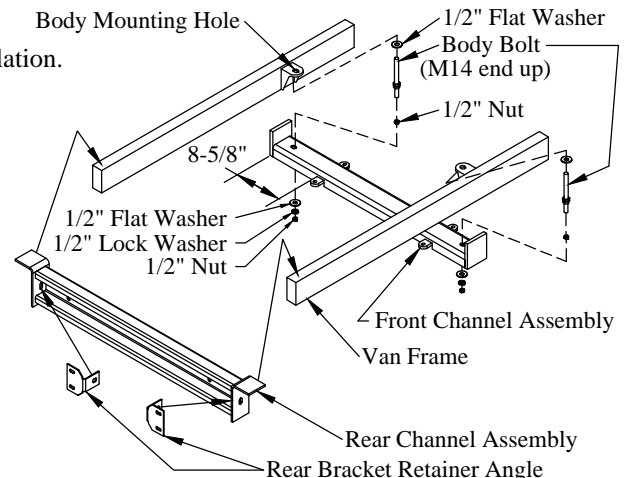

Figure 8: Channel assemblies location.
- 5. Install** the rear channel assembly on the rear of the van frame (Figure 8). The channel must go in diagonally, and then be pulled rearward. The channel will rest on top of the van frame, bolts will be installed later.
- 6. Install** the rear bracket retainer angles on the rear channel assembly (Figure 8). Use a supplied 1/2" x 1-1/4" bolt, two (2) flat washers, lock washer, and nut. Do not tighten.
- 8. Replace** each factory body bolt with a supplied body bolt and 1/2" flat washer (Figure 8). The M14 end threads into the body.
- 9. Install** the front channel assembly on the body bolts just installed on the van frame. The 8-5/8" dimension goes to the driver side (Figure 8). Use the supplied 1/2" flat washers, lock washers, and nuts.